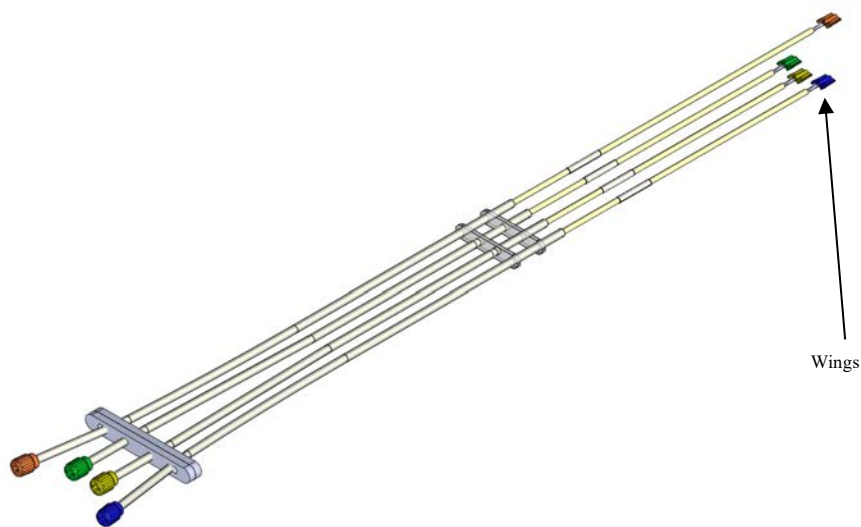

Figure 10: Thumb Wheel Extension
1. Remove the Thumb Wheel Extension Set from its sterile barrier package. See **Figure 10**.